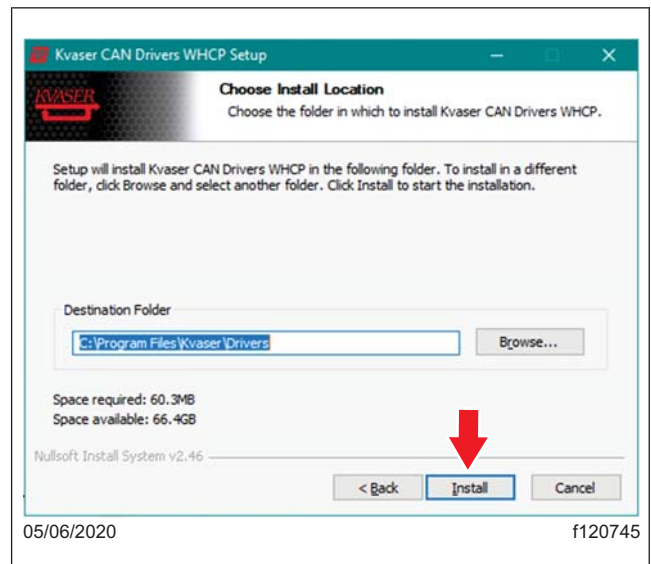

Fig. 12, Choose Install Location Window
- A window will open to choose the install location. Allow it to install in the default directory or the application may not work correctly. Select 'Install.' See Fig. 12.